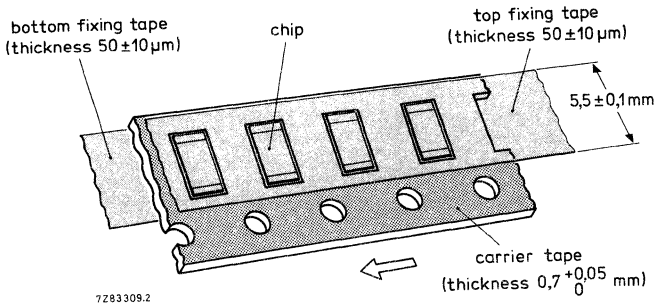

Fig. 5 Cardboard tape.
3. Blister tape, on reel; quantity 4000 per reel; reel diameter 180 mm (see Figs 5, 6).
4. Blister tape, on reel; quantity 10 000 per reel; reel diameter 250 mm (see Figs 5, 6).